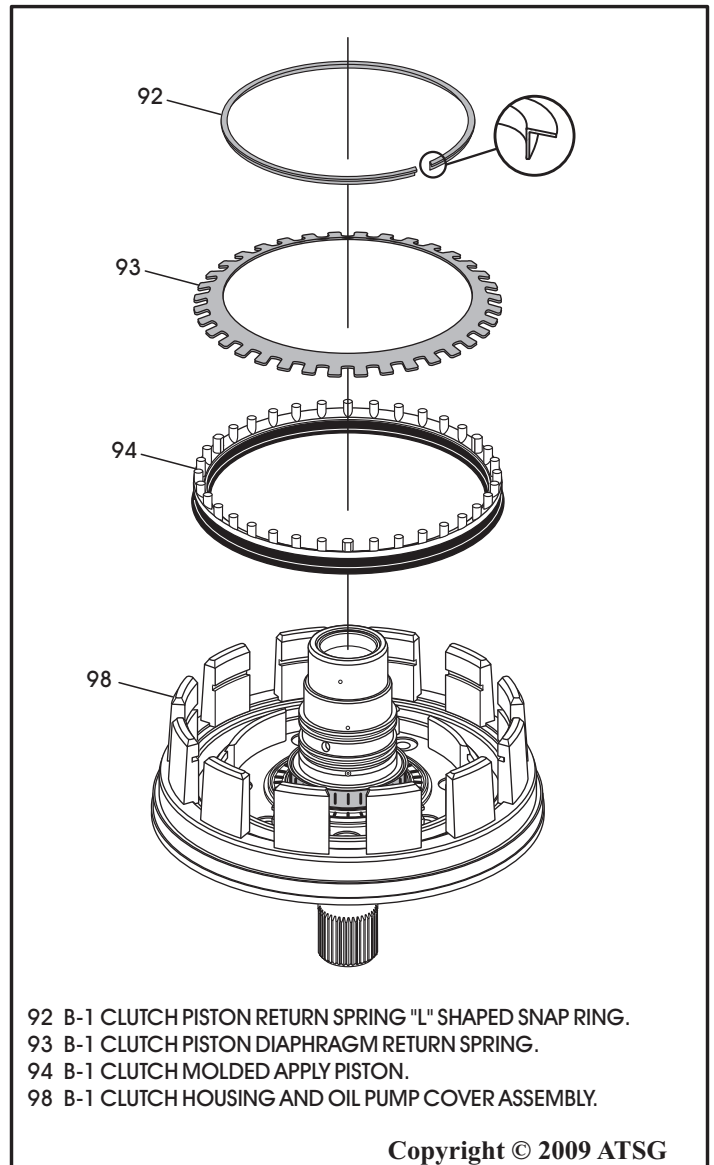

Figure 64
7. Compress B-1 clutch return spring and remove the "L" shaped snap ring (See Figure 64).
8. Remove the B-1 clutch return spring and apply piston, as shown in Figure 64.